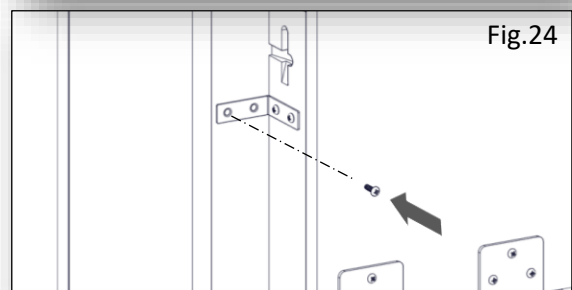

Fig.24
Important Note: Only use the Mantel Bracket outer most fixing holes. The screws are too long for the inner hole position and will protrude through the front of the Surround (A) if used. Fig.24&25.
34. The back panel has been supplied from the factory with installed LED down lights. Before the assembled surround is fitted in place. The 0.8m Fly Lead (I) needs to be plugged in to the LED connector plug. Route the Fly Lead through the Back Panel fire aperture to aid connection in the later steps.